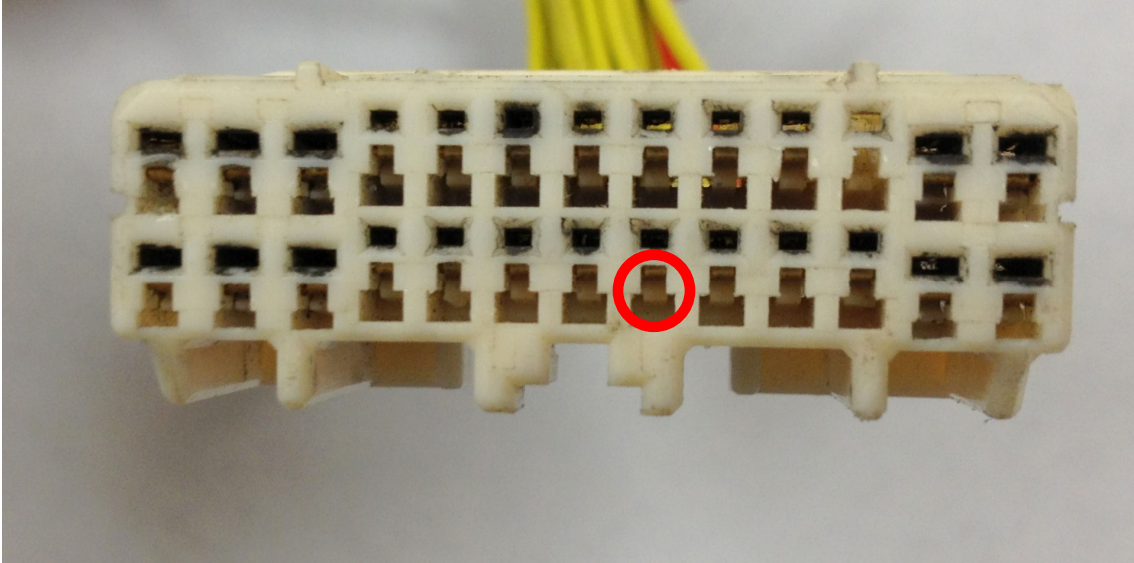

Figure 4: Pry this tab up with the screwdriver or paper clip to release pin
2. Next remove the pin from the plastic connector by lightly prying on the plastic tabs that secure the pin in the plastic connector while gently pulling on the wire at the same time as shown in figures 4 and 5.